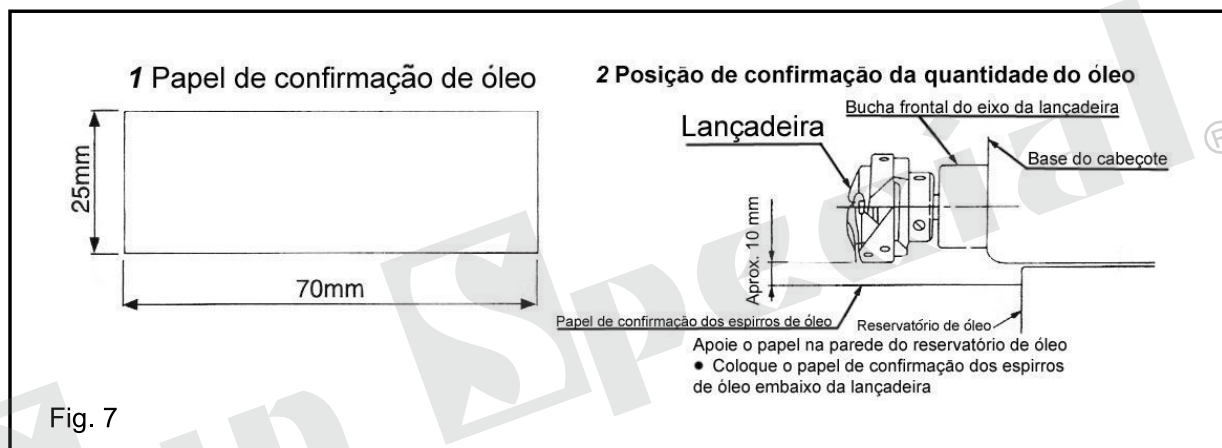

Fig. 7
3. AJUSTE DA QUANTIDADE DE ÓLEO NA LANÇADEIRA (FIG. 7, 8 E 9)**ADVERTÊNCIA:**